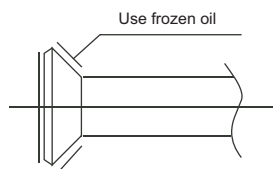

Fig.8-1
- Daub the surfaces of the flare pipe and the joint nuts with frozen oil, and wrench it for 3~4 rounds with hands before fasten the flare nuts. (Refer to Fig. 8-1)